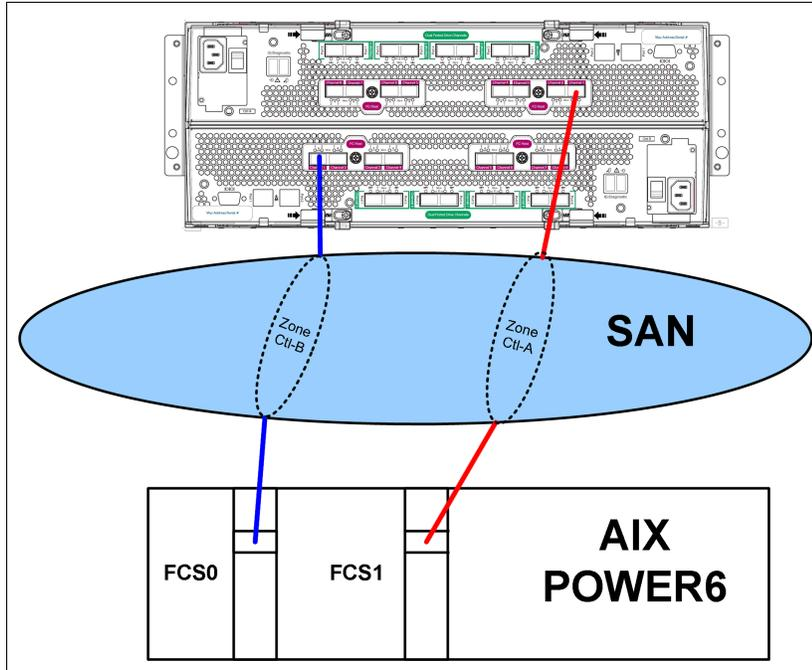
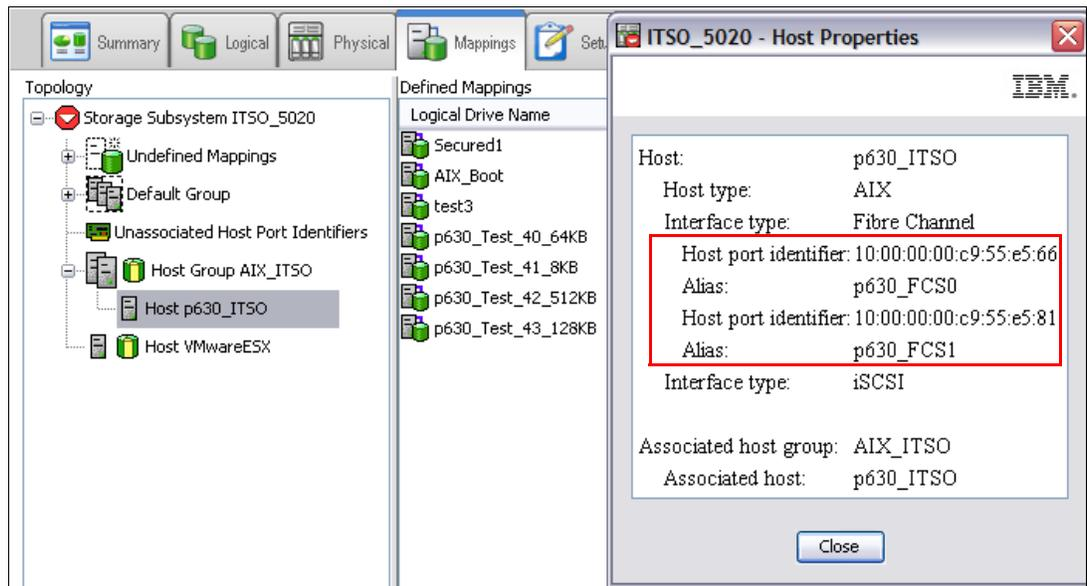

Figure 12-3 Single SAN fabric represents the Single Point of Failure
Figure 12-6 Two HBAs on a single AIX host
The AIX host must be able to communicate with both DS5000 controllers. Figure 12-3 shows a dual HBA system where each HBA is zoned to a DS5000 controller. This configuration is preferred where the AIX initiators are isolated from each other. In our example the SAN fabric can be deemed as a single point of failure, but the good practice it to connect HBAs and DS5000 controllers to separate SAN switches in the independent fabrics.
When zoning is configured on the SAN switch as shown in Figure 12-3 on page 550, the HBA worldwide names (WWN) appear on AIX host. To double-check on the DS5000, navigate to the main Storage Manager (SM) window, select **Mappings** → **View Unassociated Host Port Identifiers**. You need to see the same WWNs as you get them for each HBA from the AIX command prompt using command:
This configuration, which is the most common, is shown in Figure 12-6. For an example of the cabling and zoning of the HBA adapters to a DS5000 controller, see Figure 12-3 on page 550.
Two HBAs connected to both controllers on DS5000 with appropriate zoning are *supported* (Figure 12-6 on page 552). This configuration shows a zone that includes the first HBA to the DS5000 controller A and another zone that accesses second HBA to DS5000 controller B.